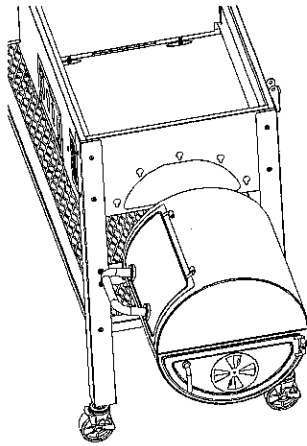

Fig.15B
Refer to Fig. 15B and place the Firebox in position so that the (5) bolt heads can fit into the KEYHOLES, allow the Firebox to move down, so the bolts slide into place in the slots and the bottom of the Firebox rests on the Ledge of the Bracket.